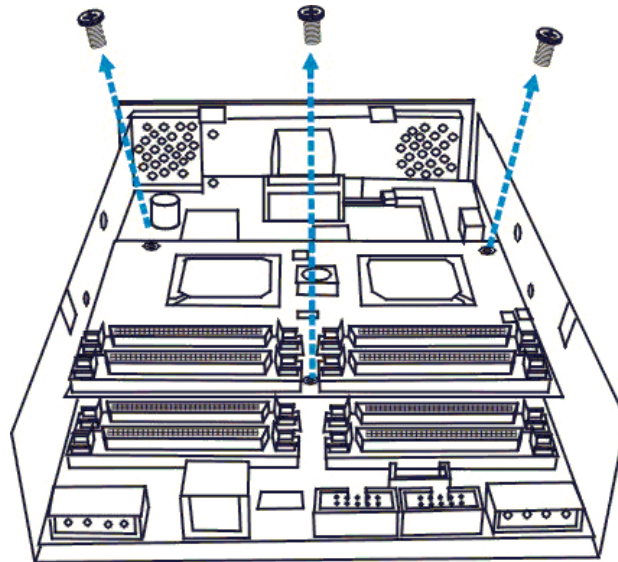

Figure 2-8: Install the Daughter Board Retention Screws
Step 3. *Insert the retention screws.* Once the daughter board has been mounted on the board-to-board connectors, insert the retention screws that came with the daughter board. (See *Figure 2-8*)